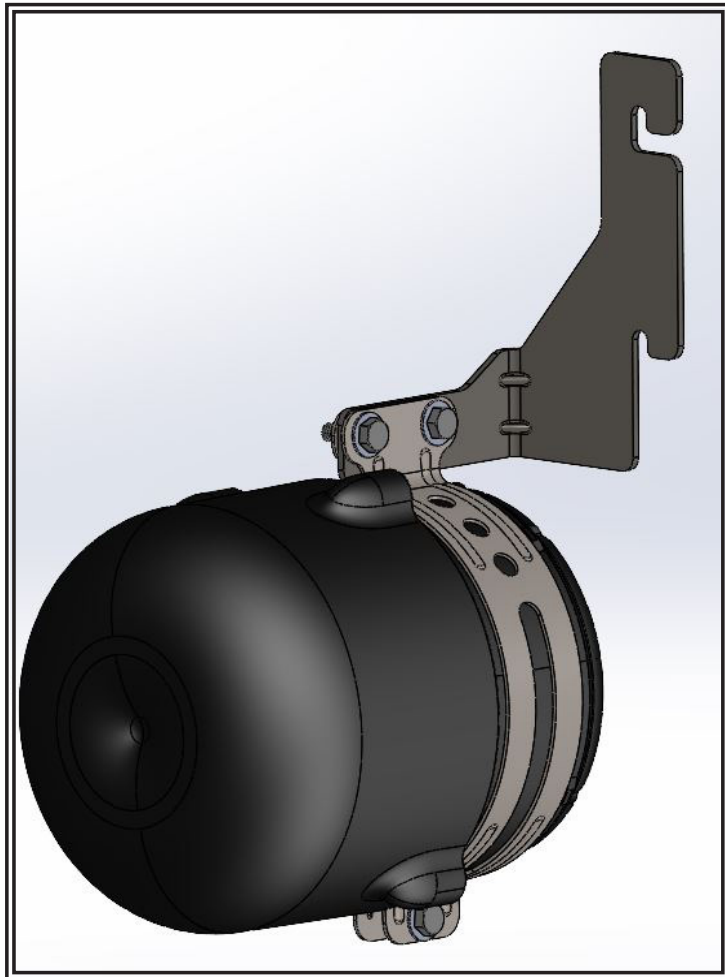

Figure 7
3. Loosen passenger side vehicle hardware and slide bracket into place See Figure 7.